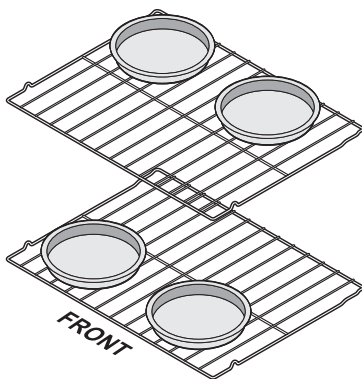

Figure 21: Pan positions two rack baking
- When baking cakes using two oven racks, position cookware as shown in Figure 21. Allow at least 2 inches (5 cm) of space between cookware for proper air circulation.